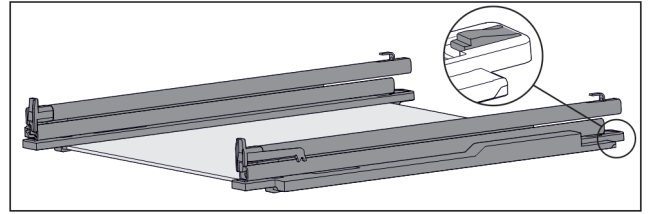

Fig. 95 Glass shelf with rails and retaining parts
- Press down retaining part at the rear (see Fig. 95) and at the same time push the rail back.